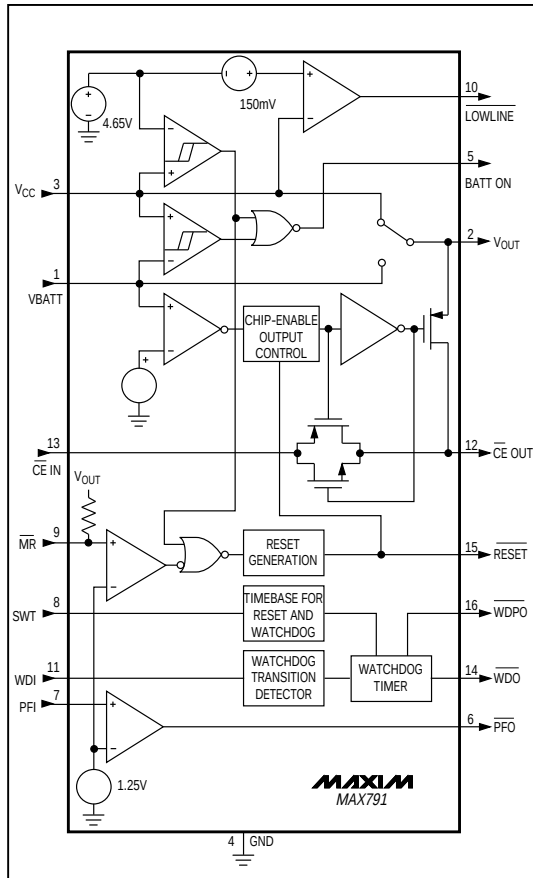

Figure 1. Block Diagram
Many μ P-based products require manual-reset capability, allowing the operator or test technician to initiate a reset. The Manual Reset Input (MR) can be connected directly to a switch, without an external pull-up resistor. It connects to a 1.25V comparator, and has a pull-up to V_{OUT} as shown in Figure 1. The propagation delay from asserting MR to RESET asserted is 4 μ s typical. Pulsing MR low for a minimum of 15 μ s resets all the internal counters, sets the Watchdog Output (WDO) and Watchdog-Pulse Output
The MAX791 provides internal gating of chip-enable (CE) signals, to prevent erroneous data from corrupting the CMOS RAM in the event of a power failure. During normal operation, the CE gate is enabled and passes all CE transitions. When reset is asserted, this path becomes disabled, preventing erroneous data from corrupting the CMOS RAM. The MAX791 uses a series transmission gate from the Chip-Enable Input ($\overline{\text{CE IN}}$) to $\overline{\text{CE OUT}}$ (Figure 1).